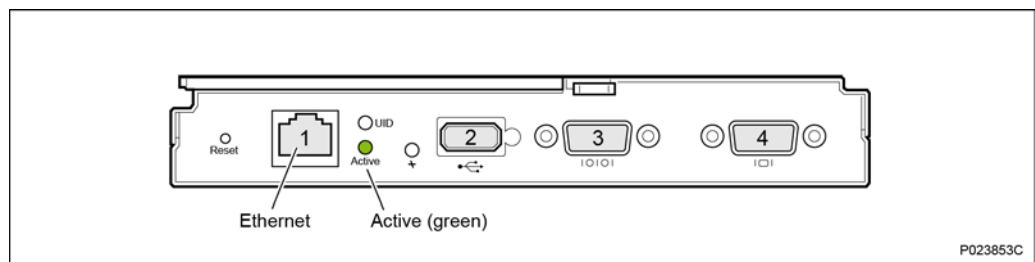

Figure 1 Onboard Administrator Module
- ☐ One RJ45 cable to connect kickstart server to Onboard Administrator (OA). See Figure 1.
1. Identify the active OA. The active OA is indicated by the green `Active` indicator, see Figure 1.